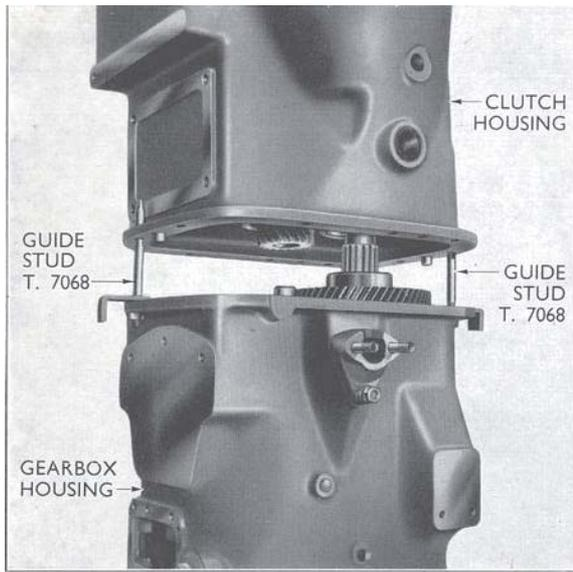

Fig. 26
**11a.** Using guide studs T.7068, join the clutch housing to the gearbox (see Fig. 26).